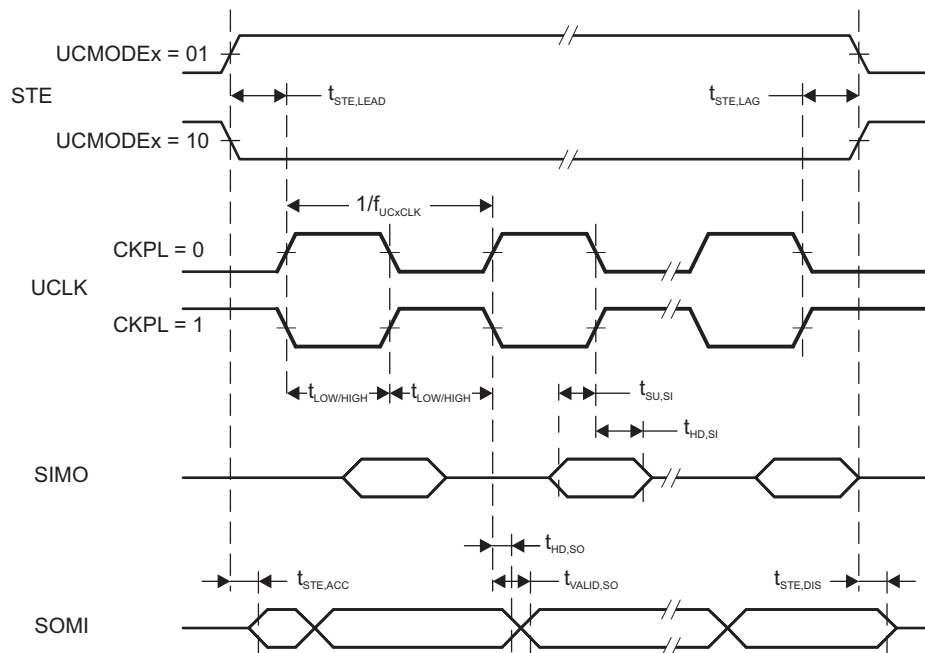
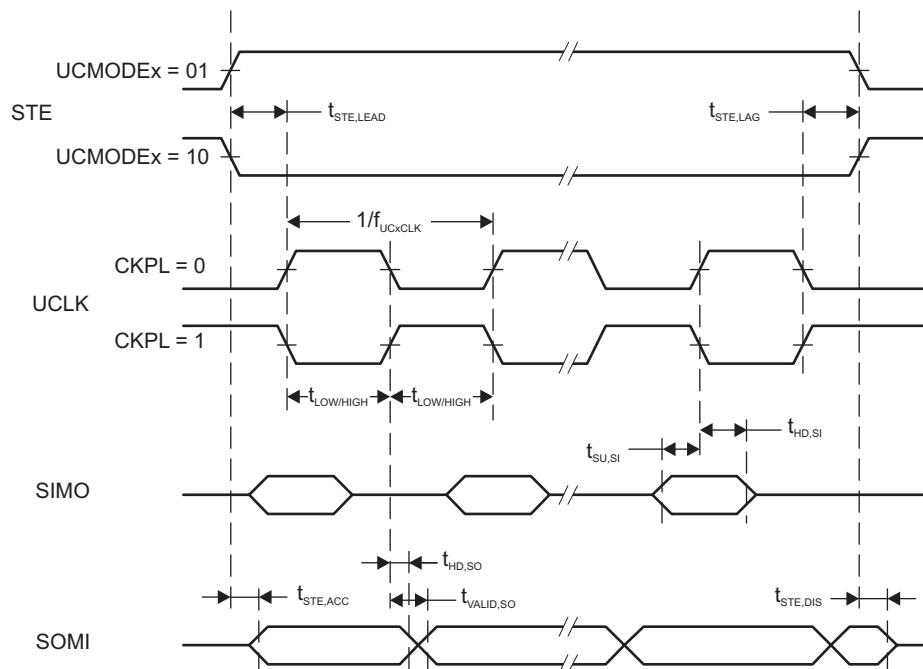

Figure 5-71. SPI Slave Mode, CKPH = 0
Figure 5-72. SPI Slave Mode, CKPH = 1
- (1) $f_{UCxCLK} = 1/2t_{LO/Hi}$ with $t_{LO/Hi} \geq \max(t_{VALID,MO(Master)} + t_{SU,SI(eUSCI)}, t_{SU,MI(Master)} + t_{VALID,SO(eUSCI)})$. For the master parameters $t_{SU,MI(Master)}$ and $t_{VALID,MO(Master)}$ see the SPI parameters of the attached slave.
- (2) Specifies the time to drive the next valid data to the SOMI output after the output changing UCLK clock edge. See the timing diagrams in Figure 5-71 and Figure 5-72.
- (3) Specifies how long data on the SOMI output is valid after the output changing UCLK clock edge. See the timing diagrams in Figure 5-71 and Figure 5-72.